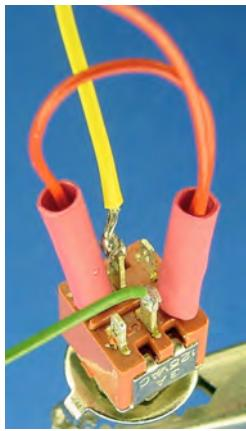

Figure 22-23. Diagonal side terminals covered in heat-shrink tubing and connected to left motor
9. Loop one end of the 6 cm red wire and one end of the 15 cm red wire together to the same terminal. You can pick any of the remaining terminals. I arbitrarily chose the lower right terminal in Figure 22-23. Twist together and solder.
Figure 22-23 shows the state of the switch as of completing step 11. The yellow and green wires are soldered to the center terminals. Two red wires are soldered to the lower right terminal of the switch and are covered by a piece of heat-shrink tubing. The other end of the shorter red wire is soldered to the terminal diagonally opposite it, and covered in heat-shrink tubing.
12. Loop one end of the 6 cm white wire and one end of the 15 cm white wire together to the same terminal. You can pick any of the remaining terminals. I arbitrarily chose the upper right terminal as it appears in Figure 22-23. Twist together and solder.